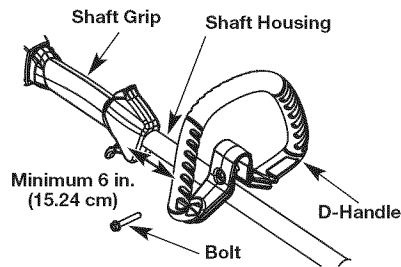

Fig. 1
1. Loosen the bolt on the handle just enough to move it (Fig. 1).
3. Tighten the bolt until the D-handle is secure (Fig. 1).